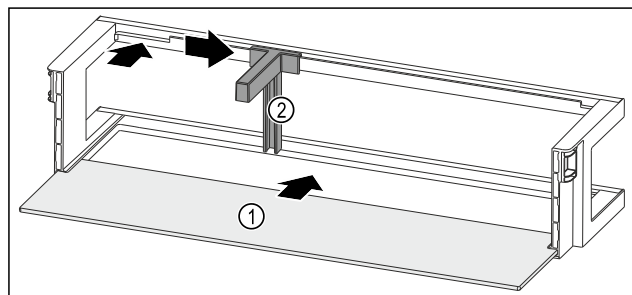

Fig. 199 Door rack with shelf
- ▶ Push the shelf Fig. 199 (1) into the side recesses.
- ▶ Insert the bottle holder Fig. 199 (2) in the recess.
- ▶ Push the bottle holder Fig. 199 (2) to the desired position to the side.